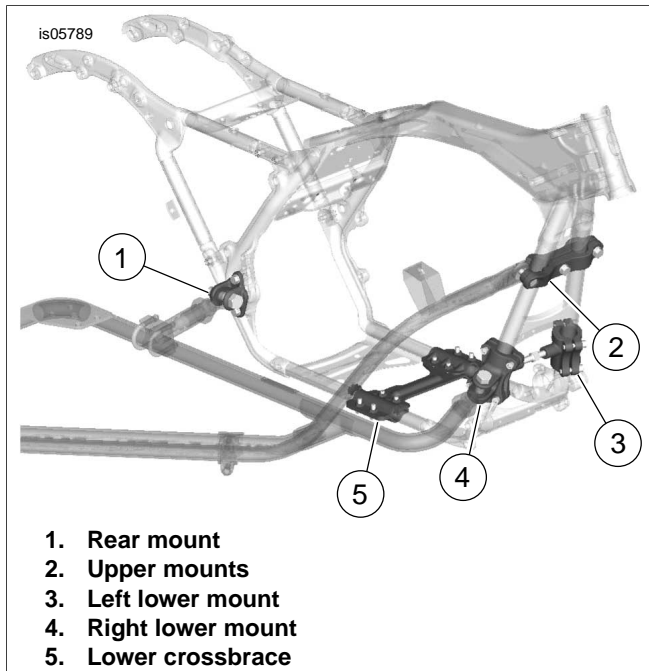
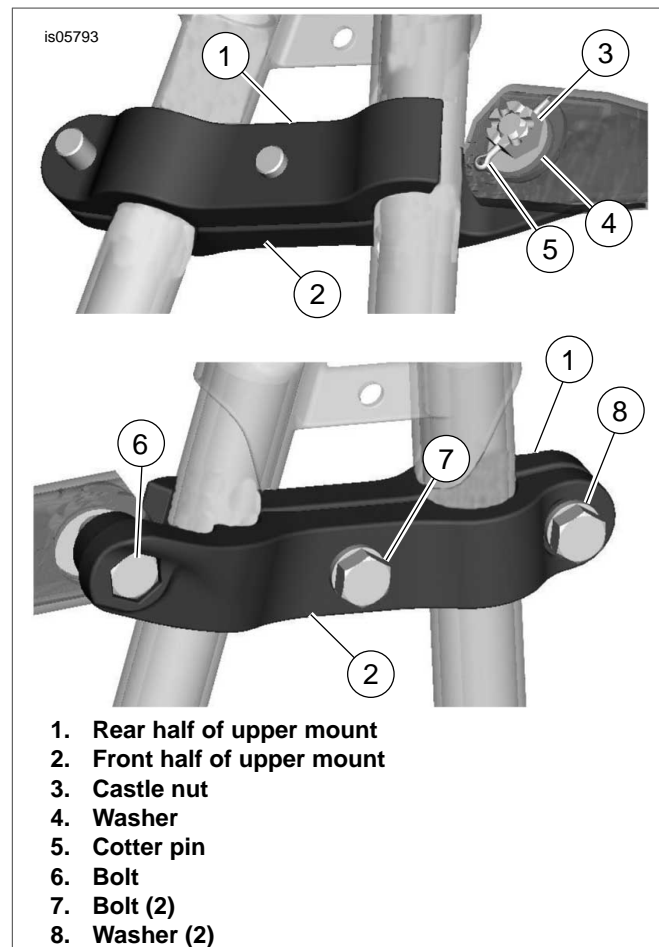

Figure 6. Crossbrace and Mounts Locations
Figure 7. Install Upper Mounts
1. See Figure 6 and Figure 7. Obtain the rear half of upper mount (1) from kit. Position the clamp on the back of the frame downtubes. The mount is self-aligning and is located correctly when the grooves in the mount mate fully and cleanly with the frame tubes. Slide the clamp up or down on the frame tubes until it is correctly aligned.
2. Install the front half of the upper mount (2) to the rear half with bolts (7) and washers (8). Secure the clamp halves to the frame tubes by tightening bolts to 50-60 ft-lbs (68-81 Nm).